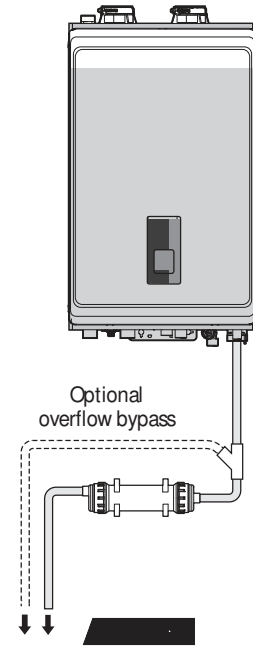

Figure 15 Horizontal installation
- ❑ If the neutralizer is installed horizontally, rotate the neutralizer to position the outlet at the highest point (Figure 15).